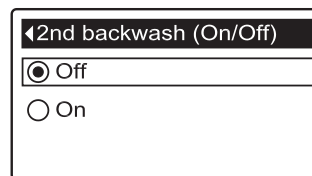

FIG. 64
- 8b. **Second backwash (On/Off):** If the desired option already has a black dot next to it (See Figure 64), go to Step 9. Otherwise, press the DOWN (▼) or UP (▲) buttons to scroll to the other option, then press SELECT (O) to choose it. Setting this feature On adds a second backwash and rinse at the beginning of the recharge cycle. Default is Off. Set this feature On if your water supply contains a lot of sediment or iron.